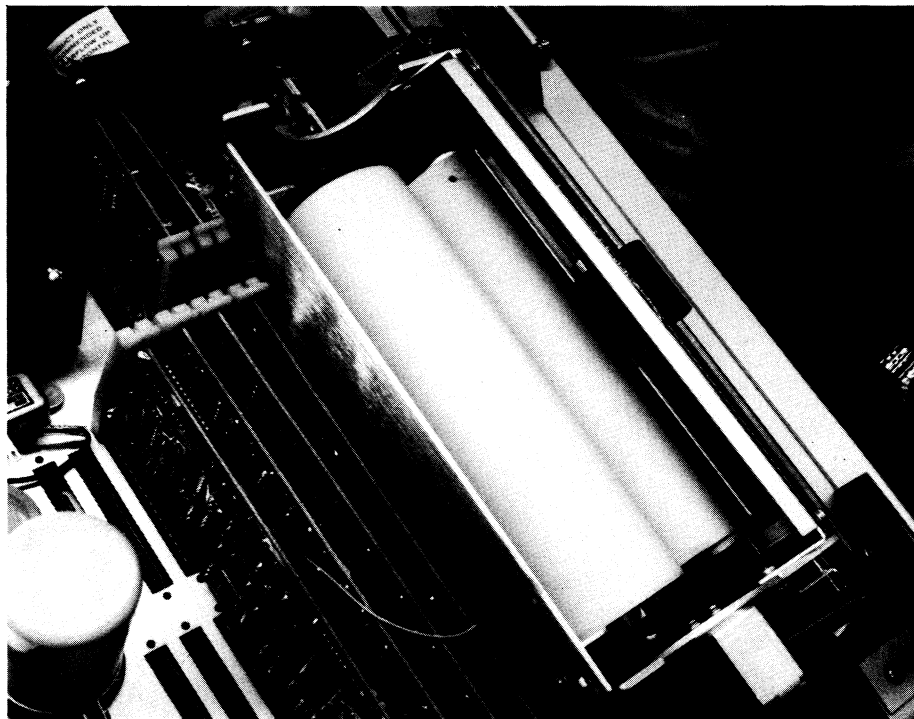

Figure 6. Paper Advanced Under Roller Bar.
4. Advance folded paper between flange and curved paper guide, and underneath the narrow roller bar as shown in Figure 6.